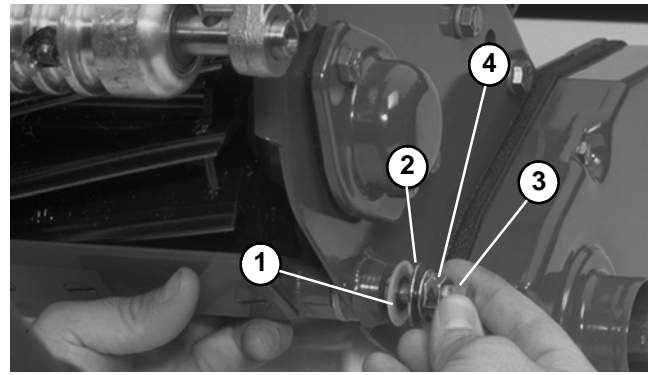

Figure 29
4. Put anti-seize lubricant on the threads of bedbar bolts. Install nylon washer, metal washer, and bedbar bolt to both sides of the frame (Fig. 29).